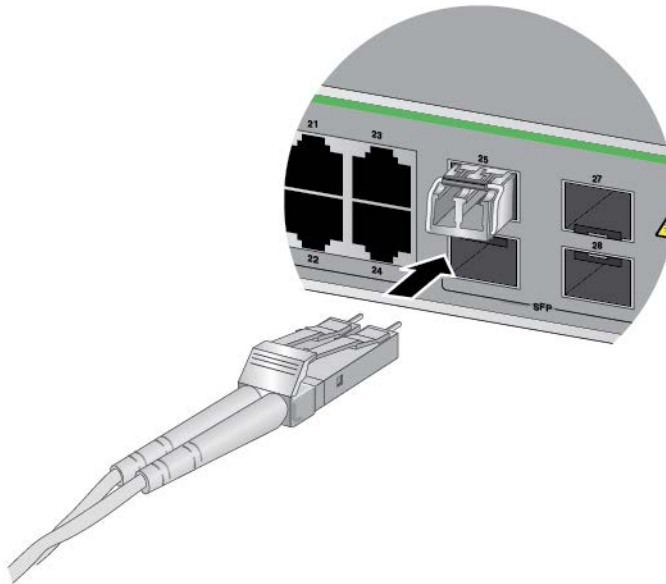

Figure 53. Connecting a Fiber Optic Cable to an SFP Transceiver
6. Connect the fiber optic cable to the transceiver, as shown in Figure 53. The connector on the cable should fit snugly into the port, and the tab should lock the connector into place.